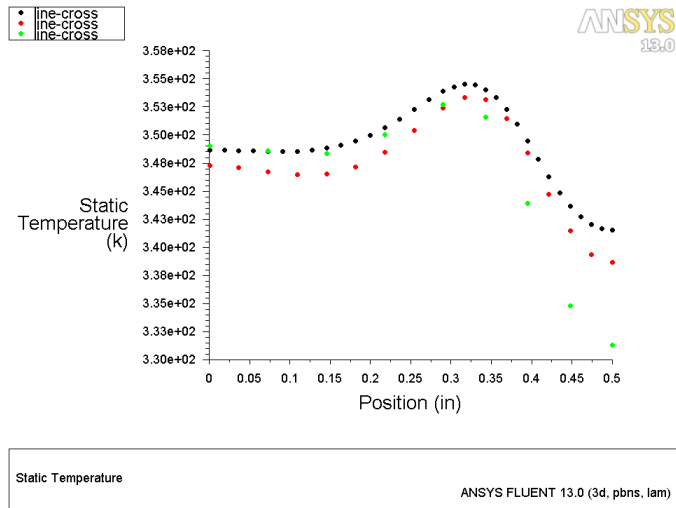

Figure 25: Comparison of Temperature Profiles After Two Mesh Adaptions
- Figure 25 shows the predicted cross-stream temperature profiles for the three mesh refinement levels. As the mesh is made successively finer, the predicted profile approaches a shape that is independent of the mesh.